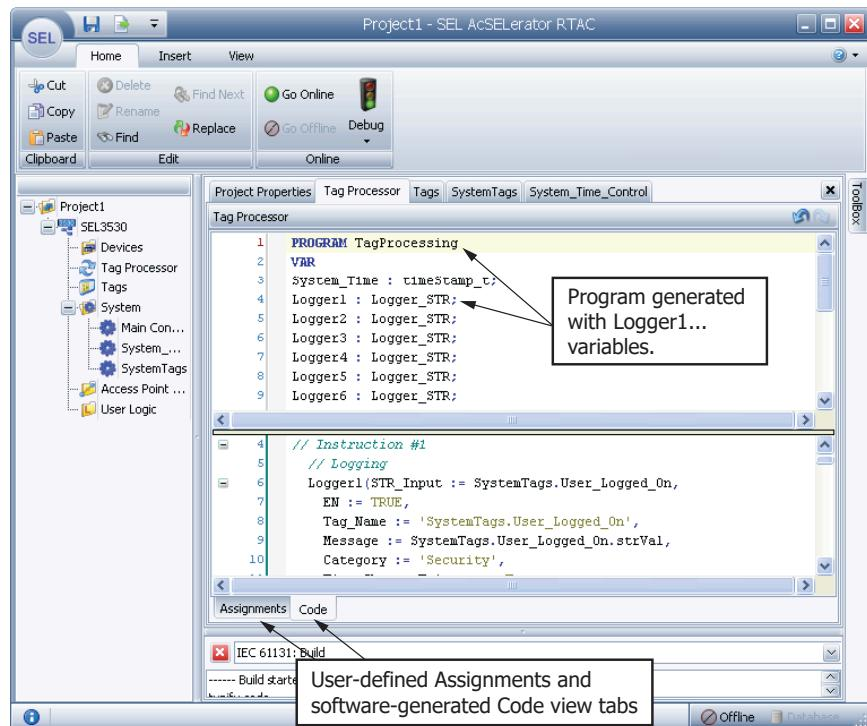

Figure 7.24 Tag Processor Code View
- Step 3. Click on the **Code** tab at the bottom of the Tag Processor to reveal the code that the Tag Processor generated (see *Figure 7.24*).